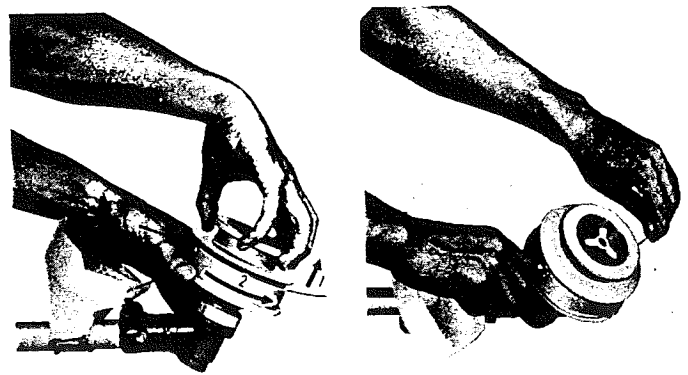

Figure 21
2. When the line wears down, loosen knob on bottom of head by turning counter clockwise four turns. Then by gripping lower ring, pull down and turn counter clockwise at the same time to the next notch, or amount desired. Retighten knob. Figure 21.